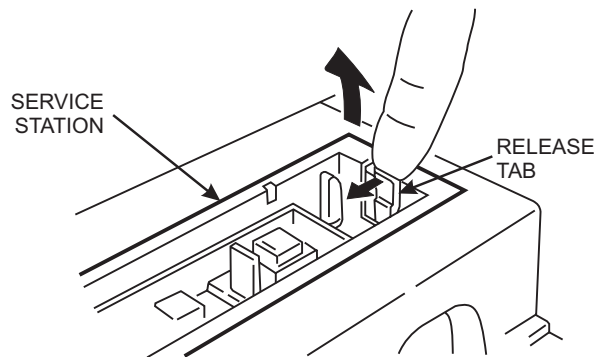

Figure 5-8. Service Station Removal.
3. Reach into the Right Cover and pull back on the Service Station release tab located on the far side of the Service Station. See Figure 5-8.